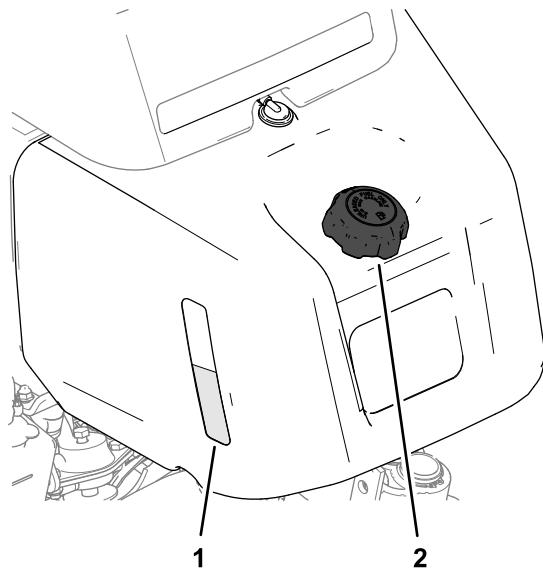
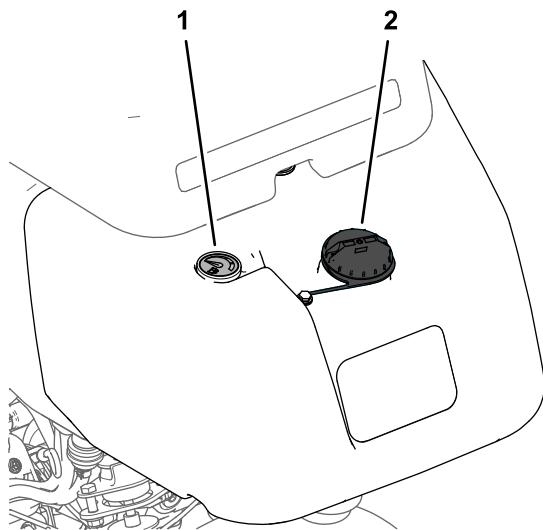

Figure 20
Figure 21
1. Clean around the fuel-tank cap and remove it (Figure 20 or Figure 21).